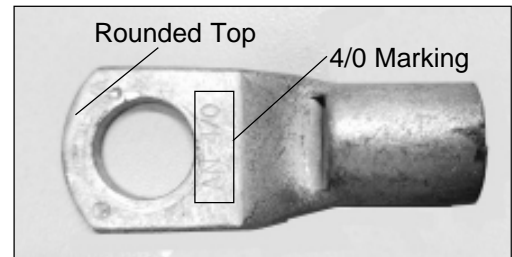

Figure 3 — 4/0 Terminal
4. If the terminal is marked 4/0 or has a rounded top (refer to Figure 3), the cable must be replaced. Measure the length of the cable from the reel end of the cable to the attachment on the chassis. Call 1-877-GO ALTEC (1-877-462-5832) to order the correct Grounding Cable Assembly from the chart below. Because the original cables were made to a custom length for each unit, the replacement cables are made to meet the range of original length cables.